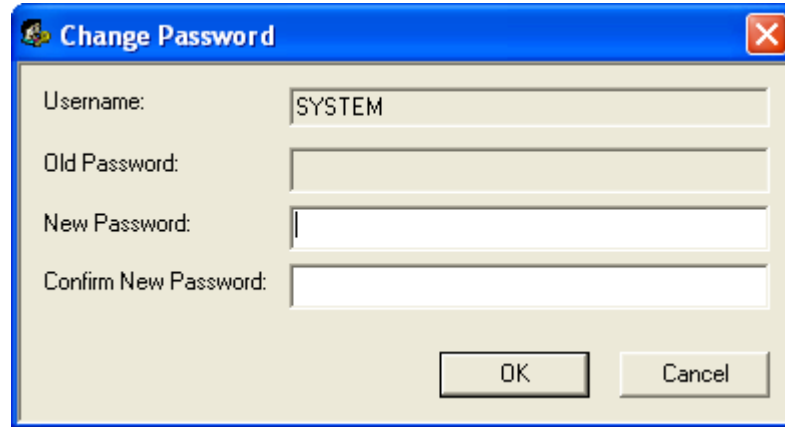

Figure 6-19. Changing a Password
1. To change the password of the currently logged on user, for example, the “SYSTEM” user, click **Security>Change Password**. The Change Password dialog box opens (see *Figure 6-19*.)